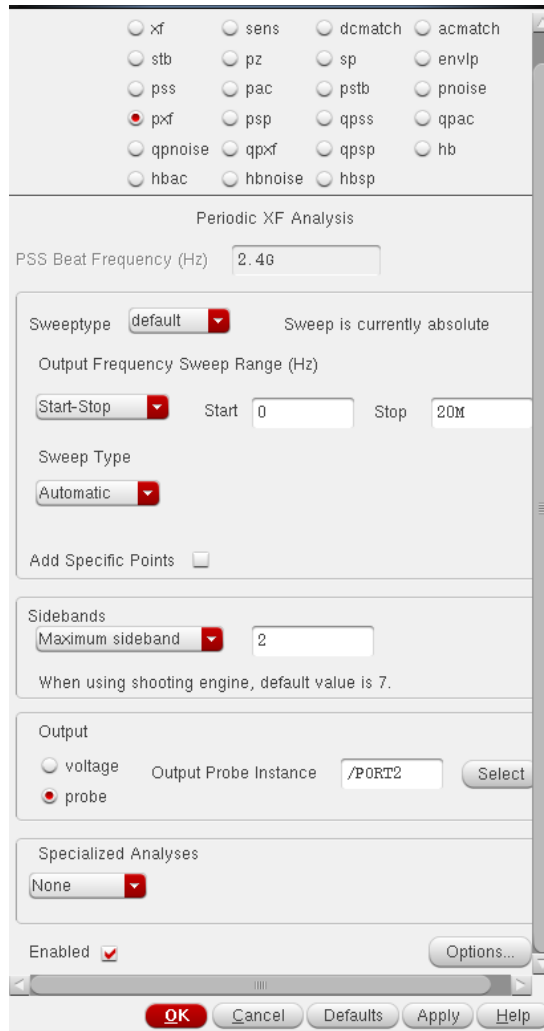

Fig. 21
- Activate PXF analysis and set its parameters according to Fig. 21. Select the IF port as your output probe. Note that this is the output frequency we specify, while in the PAC simulation we specify the input frequency.